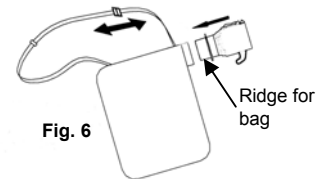

Fig. 6
3. Pull velcro strap to tighten cuff on adapter. Ensure that bag is properly attached to avoid debris from being thrown out of opening. (Fig. 6)